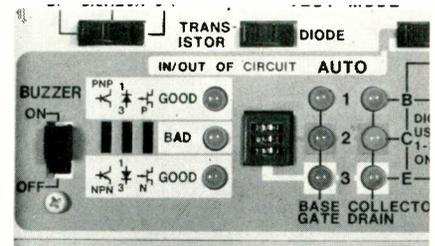
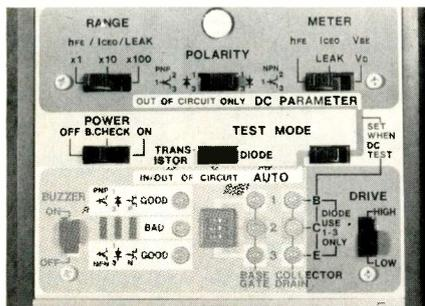

Figure 2 Socket and controls for in-circuit transistor tests are located on the lower-left section of the panel.
Figure 3 Switches on the upper and right sections of the panel are operated during out-of-circuit tests of beta, C/E leakage and B/E voltage drop.
In the Figure 1 counter, for example, highs must be at all NAND inputs simultaneously (see Figure 2). Unfortunately, the time delay between output highs from the first and fourth flip flops can be sufficient to prevent the fourth flip flop high from arriving at the NAND before a high from a previous flip flop has begun to drop toward zero volts (low). This causes a narrow glitch which resets the counter too soon.
In Figure 2, examine the column of binary states. The resetting binary condition is 1010; therefore, try to find two that do not occur in any count previous to 10. Of course, the NAND inputs can come from the NOT-Q outputs, if desired. Six different pairs of NAND inputs are possible from the four binary digits.
Two-input NAND—Figure 3 shows the ripple counter after programming by a two-input NAND gate. The first and third digits of the
B COUNT FOR FIGURE 3
Figure 2 (A) The 4-input NAND column is for Figure 1, and it proves the counter will reset at the beginning of decimal 10 count. (B) Outputs from FF4 and FF2 were selected for the 2-input NAND of Figure 3. Use the binary count column to verify this choice.
Figure 3 No glitches are produced by this simplified ripple counter. Only one flip flop separates the signals that are applied to the two inputs of the NAND. Therefore, the time delay is shortened. With only two inputs, the programming must be selected with greater care.
During an in-circuit good/bad test of transistors, the internal circuitry evidently tries every combination of the three leads. Therefore, it is not necessary to connect the three test leads to any certain elements of the transistor. If the transistor is a PNP type that has some gain in the circuit, an LED marked "PNP" and "good" flashes on and off continuously. In addition, two or three LEDs at the right of the transistor socket (Figure 2) flash on and off in time with the "good" LED. These LEDs are part of the six that identify the base and the two transistor leads that connect to collector or emitter. If only two of the six LEDs flash, the one in the left vertical row indicates the lead that connects to the base. And the one in the right column identifies the collector. By elimination, the one remaining is the emitter.
Seven switches control the out-of-circuit dc parameter tests (Figure 3). Of course, the "power" switch is used also for in-circuit tests. It has a position for reading the internal 9-V battery condition.